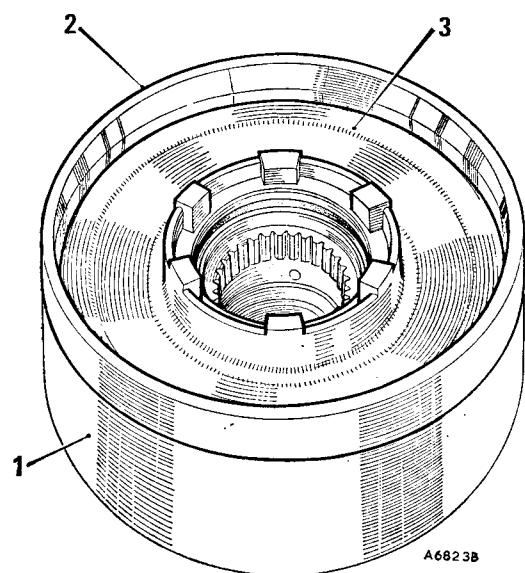

Fig. Fa.56
- (10) Refit the reverse gear booster piston with the boss facing outwards, using Service tool 18G 1103 (see Fig. Fa.56).
- (11) Refit the top gear piston into its cylinder with the boss facing outwards.
- (12) Fit the top gear piston and cylinder into the clutch housing, with the cut-aways on the rear outer edge of the cylinder opposite the holes in the clutch housing.
- (13) Refit the top gear piston return spring, spring retainer, and circlip.